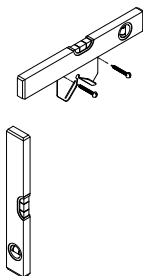

Fig. 5
2. All holes in the wall mounting plate must have fixings used in them as per the image below (Fig 5). Do not leave out fastenings as this will compromise the integrity of the wall plate.